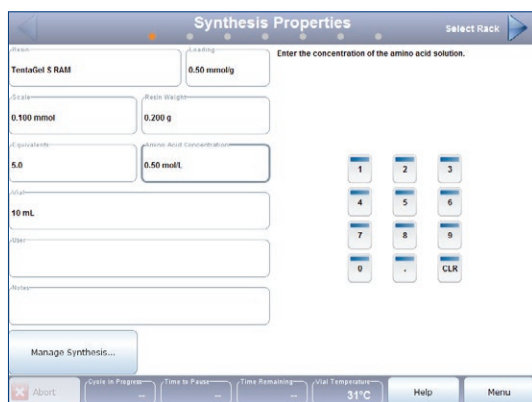

Figure 4. The Synthesis Properties view in the synthesis wizard.
1. Enter peptide synthesis mode by pressing **Peptide Synthesis** in the main menu. This opens the wizard in the **Synthesis Properties** view; see Figure 4.